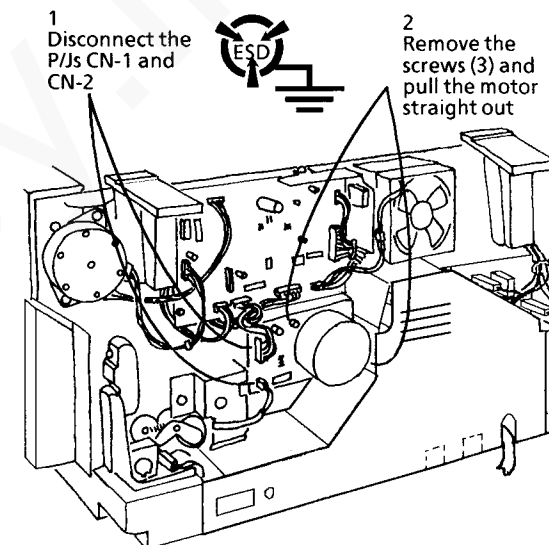

Figure 1. Removing the Main Drive Motor
3. Remove the Main Drive Motor (Figure 1).